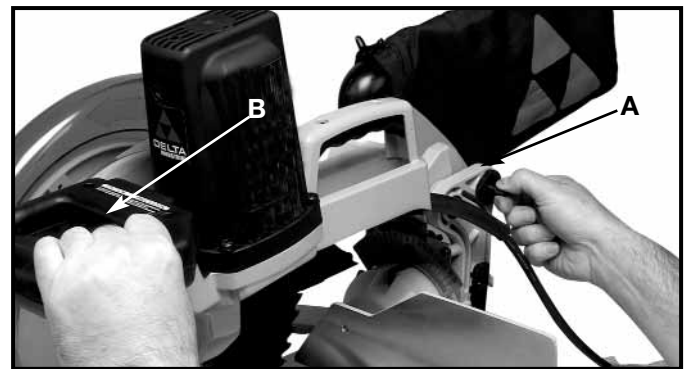

Fig. 3A
Push down on the handle (B) Fig. 3A, pull out cuttinghead lockpin and move the cuttinghead (B) to the up position (Fig. 4).